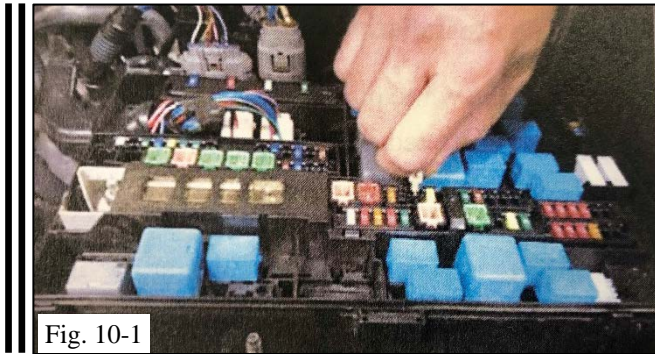

Fig. 10-1
- (a) Temporarily insert the short pin fuse in the engine room R/B and J/B located inside the engine compartment to perform the function checks (Fig. 10-1)